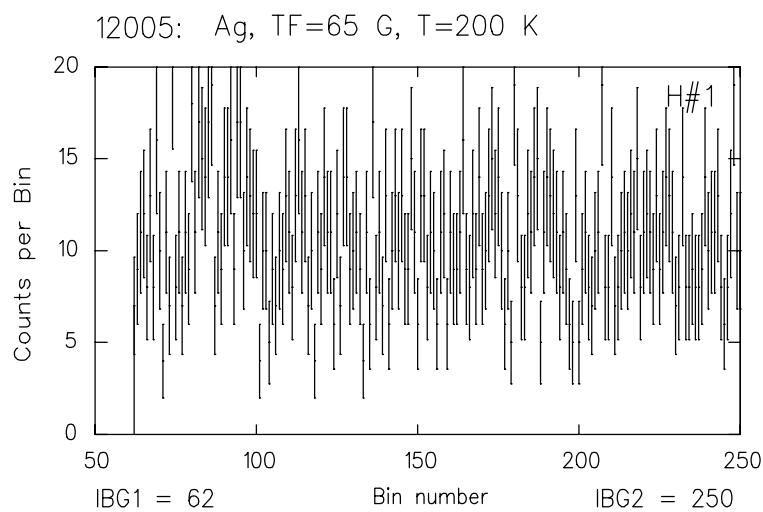

Figure 4.2: Typical output from the BKGD macro.
**BKGD** Determines the background bin range and confirms visually that the region in the  $j^{\text{th}}$  Histogram estimated to contain flat  $t < 0$  background (bins IBG1[j] to IBG2[j]) actually does, Fig. 4.2.